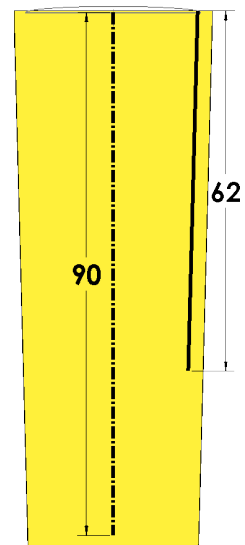

Fig. 37
Step 15. Dimension **line 62** and **vertical centerline 90**, **Fig. 37**
Step 17. Click the centerline and click **Zoom to Selection**  (Q) on the View toolbar to zoom to sketch.